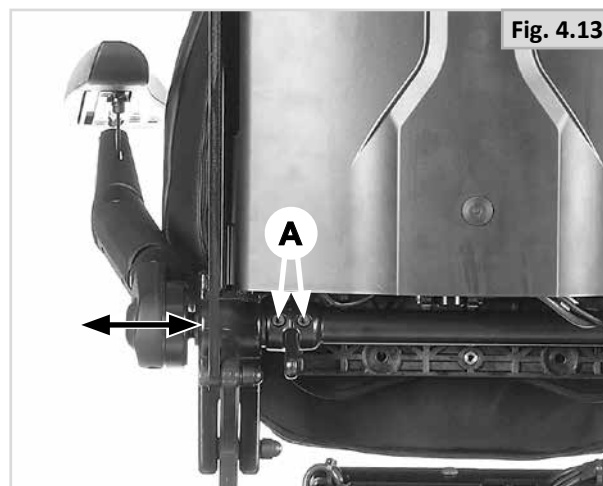

Fig. 4.13
- Loosen the two screws (5.0mm Allen key) on the traversing tube as shown in (Fig. 4.13 - A).